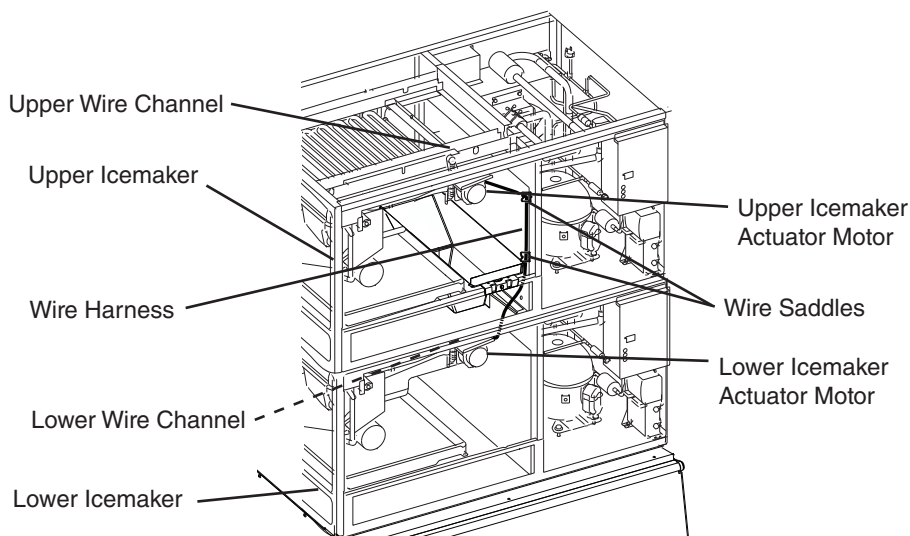

Fig. 14
- 24) Route the wire harness from the lower wire channel through the lower wire channel access hole with the lower icemaker actuator motor wires. Then, up into the upper icemaker between the frame and the new ice chute through the wire saddles and into the upper wire channel through the upper wire channel access hole with the upper icemaker actuator motor wires. See Fig. 14.